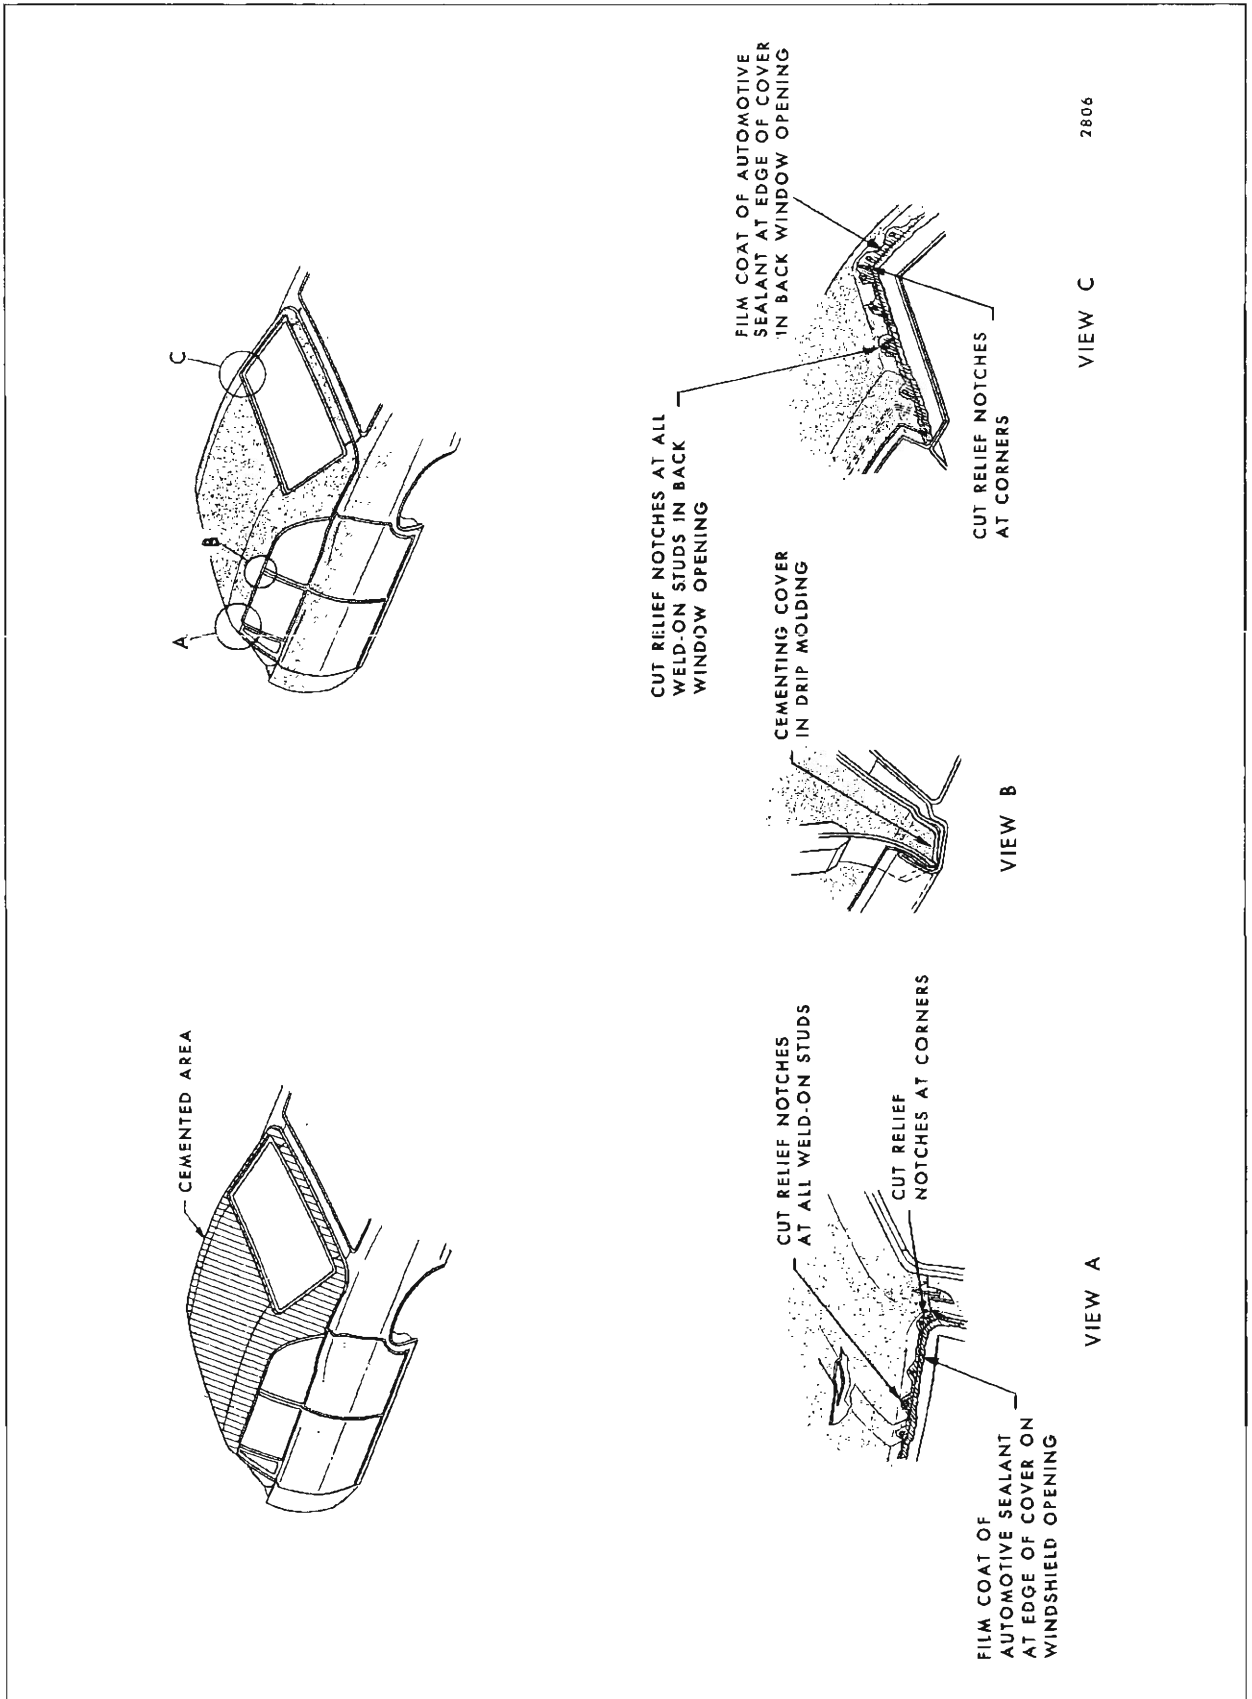

Fig. 12-6—Typical Fabric Roof Cover Installation without Pad or Roof Panel Moldings
12. On styles where the cover extends into the windshield or back window opening, perform the following (Fig. 12-6):
23. Apply a "film" coat of silicone sealant such as Dow Corning Automotive Sealant, General Electric RVP Sealant, or equivalent, to the edge of cover in windshield and back window opening and at belt area; also, at edges on roof panel when roof panel moldings are used. Make certain edge of material around all reveal molding clips that were not removed is also sealed. (Figs. 12-6 & 7).